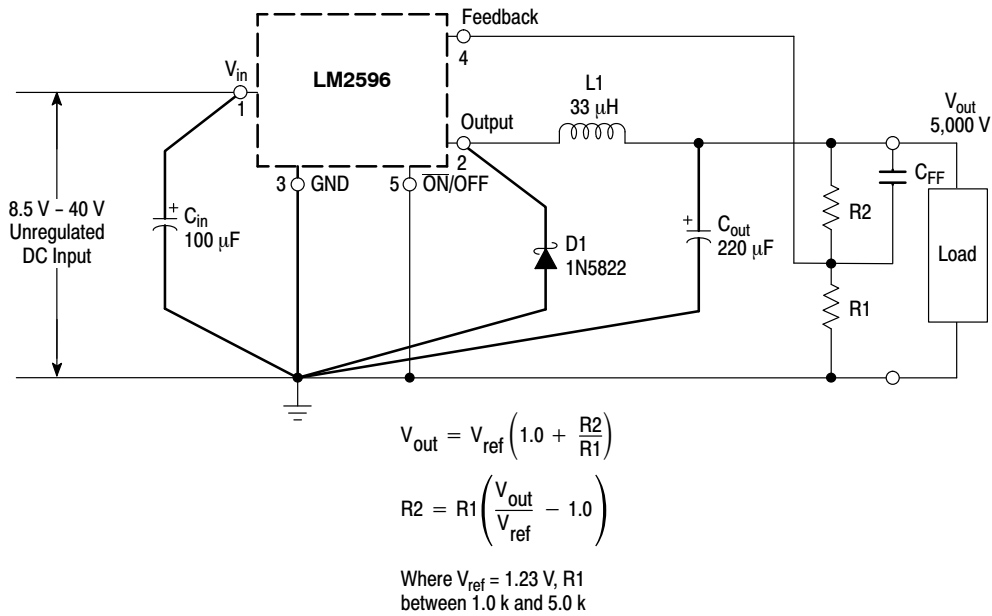

Figure 15. Typical Test Circuit
LM2596 (Note 1, Test Circuit Figure 15)
- External components such as the catch diode, inductor, input and output capacitors can affect switching regulator system performance. When the LM2596 is used as shown in the Figure 15 test circuit, system performance will be as shown in system parameters section.
TYPICAL PERFORMANCE CHARACTERISTICS (Circuit of Figure 15)
As in any switching regulator, the layout of the printed circuit board is very important. Rapidly switching currents associated with wiring inductance, stray capacitance and parasitic inductance of the printed circuit board traces can generate voltage transients which can generate electromagnetic interferences (EMI) and affect the desired operation. As indicated in the Figure 15, to minimize inductance and ground loops, the length of the leads indicated by heavy lines should be kept as short as possible.